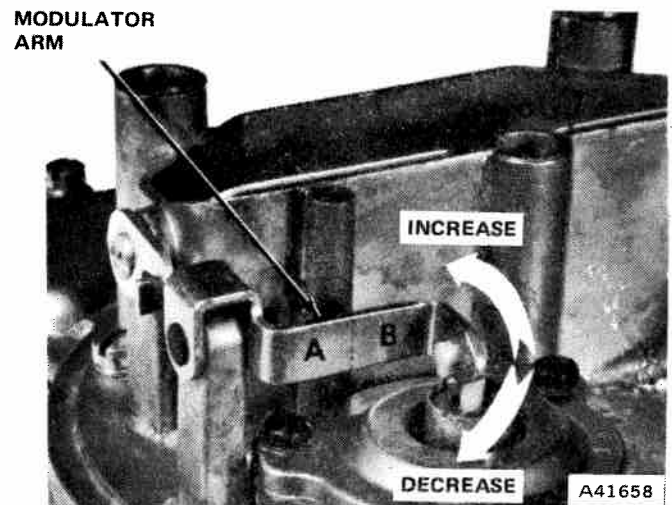

Fig. 4-49 Initial Choke Valve Clearance Adjustment
(2) Disconnect choke heat inlet tube. Align fast idle speed adjusting screw with the second step (index) of the fast idle cam.
(3) Start engine without moving accelerator linkage. Turn fast idle cam lever adjusting screw out (counter-clockwise) 3 full turns. Measure clearance between the lower edge of choke valve and air horn wall (refer to Carburetor Service Specifications for correct setting).
(4) Adjust by grasping modulator arm securely with a pair of pliers at point A and twisting the arm at point B with a second pair of pliers. Twist toward the front of the carburetor to increase clearance and toward the rear of the carburetor to decrease clearance (fig. 4-49).